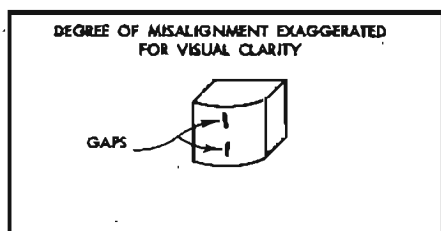

Fig. 6. Relative misalignment of the gaps of a stereo head.
In the case of stereo heads, it is important to realize that it is possible for the two gaps to be out of alignment with each other, as shown in Fig. 6. Ideally, the two gaps should be in a perfectly straight line. If they are not, as sometimes happens, then it is not possible to obtain correct azimuth alignment on both tracks. Aligning one gap automatically throws the other gap out of alignment. Else one has to find a compromise position where both tracks are equally affected. The best solution is to replace the head, unless the degree of misalignment is so slight as not to cut response more than two or three db at the upper end of the audio range.
Though it seems a drastic step, all the high-voltage circuitry can be removed. Indeed when the performance of the valve and transformer is being considered, the whole of the valve circuit—valve, bias resistor and its shunt capacitor, grid capacitor, and grid resistor—can be removed and replaced by a single resistor having a value equal to the slope resistance r_a of the valve under its working condition. However, the valve is an active device in that it produces signal power and thus we have to add to our slope resistance r_a a generator that we can assume to produce the same power as the valve. When this is done the whole of the circuit inside the dotted box can be replaced by the two devices in (B) of Fig. 6, a resistor r_a and a generator, the combination appearing as a power generator having no resistance in series with a resistance equal to the valve slope resistance.
Fig. 6. Practical single-ended output circuit, (A), and its equivalents; (B), simplest form; (C), at low frequencies; (D), between 150 and 4000 cps; (E), final equivalent circuit at frequencies below 150 cps.
as the same resistance connected across the primary winding, at least at the low-frequency end of the audio range. The practical circuit has now been reduced to the much simpler circuit of (C) in Fig. 6 the transformer and speaker voice coil being reduced to a resistor R_L and an inductance L_p in parallel, the inductance being that of the transformer primary winding measured at some low audio frequency with the secondary winding open circuited.
As the generator frequency is increased the reactance of L_p will increase (being directly proportional to frequency) until at some higher frequency the reactance will be much higher than R_L . At, and above this frequency, the inductance L_p can be removed for it has no effect on circuit performance and the circuit then consists of the generator and two resistors, and R_L . At these frequencies the equivalent circuit r_a will be that of (D) in Fig. 6, the output voltage will clearly be
a flaw in this reasoning. At those low frequencies where the reactance of L_p is low compared to R_L , the total circuit impedance will fall and the current drawn from the constant-voltage generator will rise and thus tend to maintain constant the voltage across R_L and L_p . A detailed analysis shows that this compensating effect can be exactly allowed for by assuming that the generator resistance has a value lower than the slope resistance r_a and in fact is equal to the valve slope resistance r_a and the load resistance R_L in parallel. The equivalent circuit then reduces to that of (E) in Fig. 6 and has the same voltage/frequency relation for V_o/V_i as the appreciably more complex circuit of (A) in Fig. 6, an effective demonstration of the advantages of equivalent circuits.
In a simple circuit such as that of (E) in Fig. 6, it is fairly easy to see that V_o will tend to approach V_i as the reactance of L_p becomes large relative to the resistor R_p . The reactance $X_L = 2\pi f L_p$ is directly proportional to frequency and thus it is clearly going to be difficult to maintain X_L large compared to R_p , down to such very low frequencies as a few cycles per second. When transformers are used there is no alternative to accepting a frequency response that falls away at low frequency, but the frequency at which the falloff commences can be moved down to any desired fre-